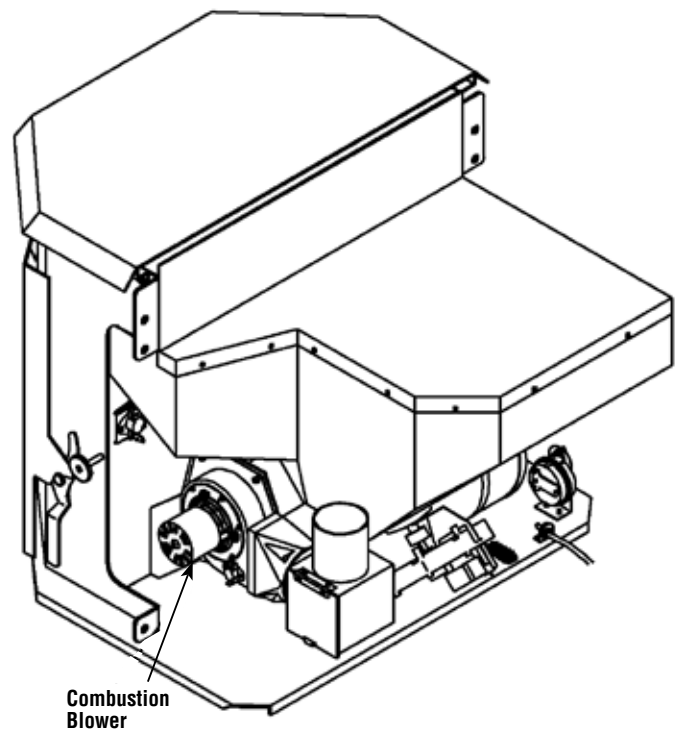

Figure 43
2. Locate the switch on the combustion blower (see **Figure 43**).